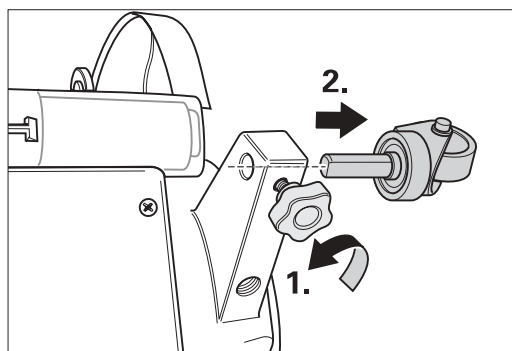

Fig. 78: Undoing the star grip screw and removing the guiding wheels from the fan housing.
- 4 Undo the star grip screws on the guiding wheel arms of the fan housing and pull the guiding wheels out of the fan housing (Fig. 78).